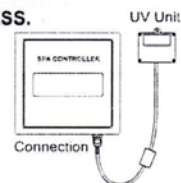

FIGURE 2
1. Turn the breaker to the spa OFF. We recommend that you drain your spa. Disconnect the **CLEARRAY** System from the controller, Figure 2.
2. Once the UV lamp has cooled off remove the **CLEARRAY** System enclosure cover (10) and gasket (9) by removing the four screws (11).